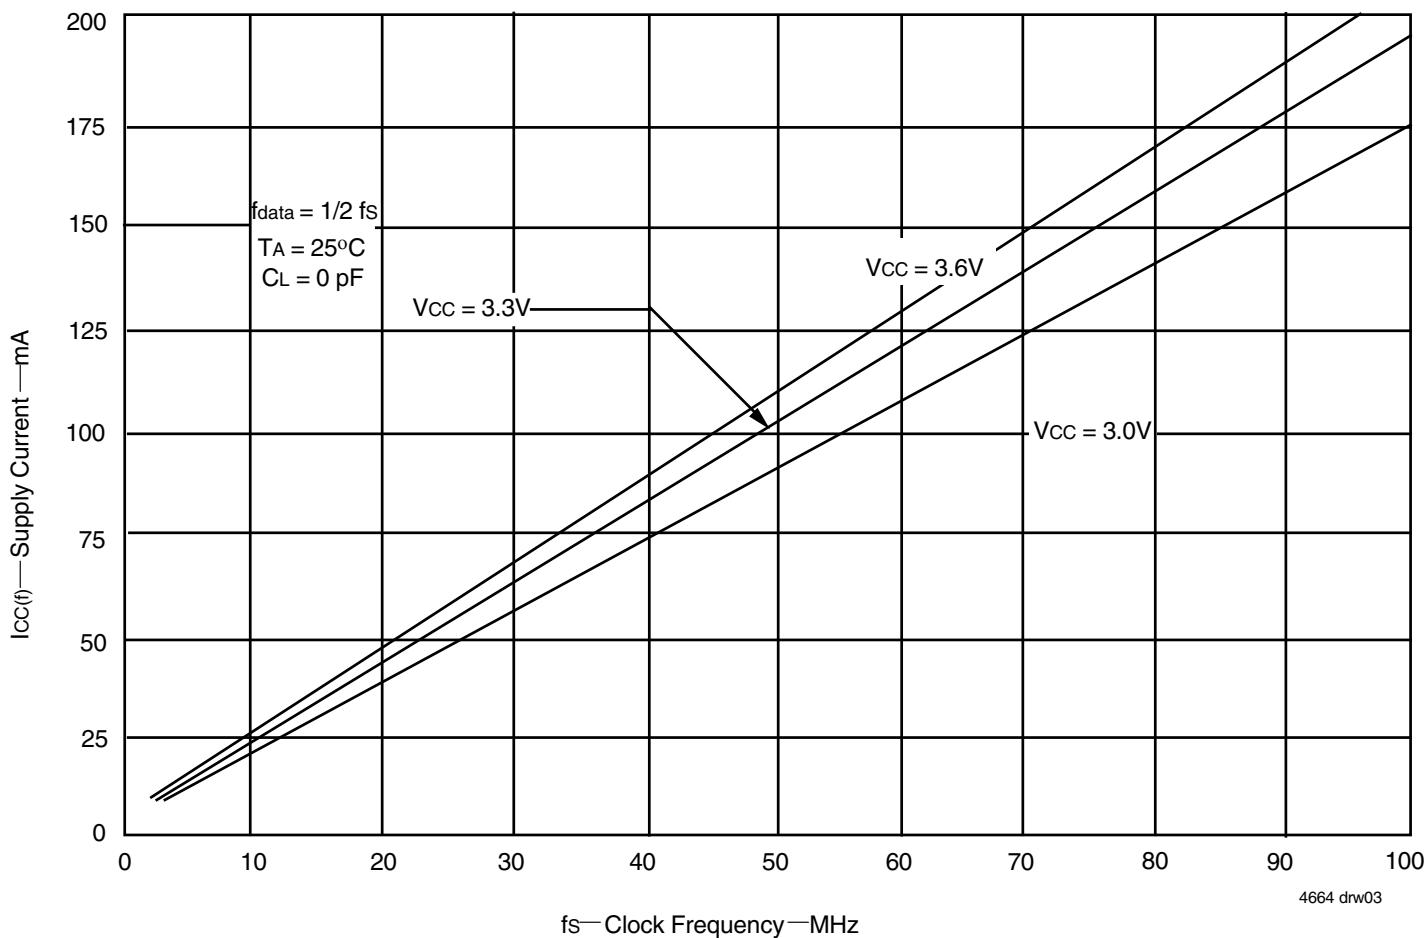

Figure 1. Typical Characteristics: Supply Current (I_{CC}) vs. Clock Frequency (fs)
3. For additional I_{CC} information, see Figure 1, *Typical Characteristics: Supply Current (I_{CC}) vs. Clock Frequency (f_s)*.
The $I_{CC(f)}$ current for the graph in Figure 1 was taken while simultaneously reading and writing a FIFO on the IDT72V3624/72V3644 with CLKA and CLKB set to fs . All data inputs and data outputs change state during each clock cycle to consume the highest supply current. Data outputs were disconnected to normalize the graph to a zero capacitance load. Once the capacitance load per data-output channel and the number of these device's inputs driven by TTL HIGH levels are known, the power dissipation can be calculated with the equation below.
With $I_{CC(f)}$ taken from Figure 1, the maximum power dissipation (PT) of these FIFOs may be calculated by: